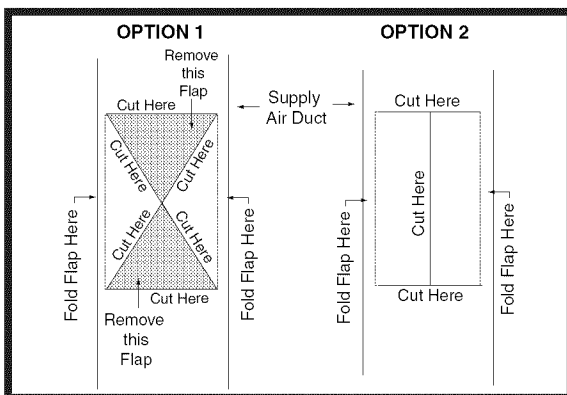

Figure 11. Narrow Air Duct Openings
1. Score and cut the top of the supply air duct as indicated in Option 1 or Option 2 (Figure 11). With Option 1 choice, cut out the metal from the shaded area.
Required ceiling and roof cut-out openings (see Figure 11) must be carefully located to avoid misalignment of the furnace and Roof Jack. **Note:** Install only Roof Jack Assemblies listed in Table 4 on this heating appliance.